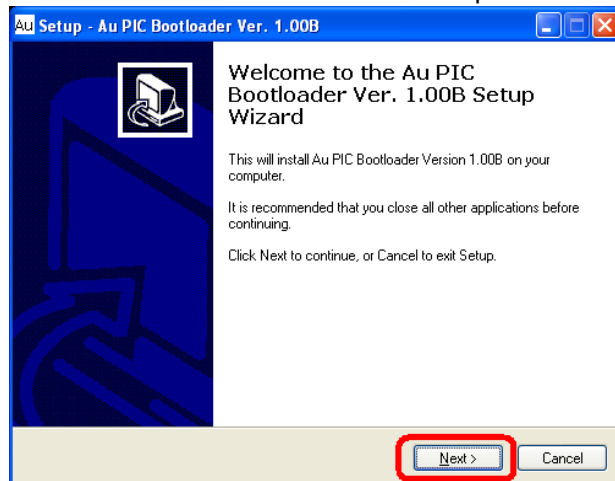

Figure C-2
2. "Welcome to the Au PIC Bootloader Setup Wizard" window show up, click "Next" (Figure C-2)